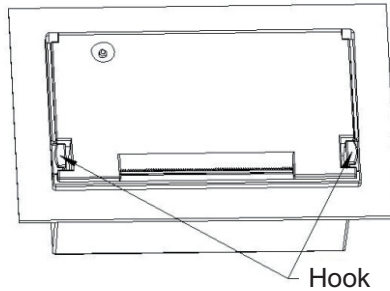

Fig. 2-2
(1) As shown in Figure 2-2, hold the two hooks indicated by arrows in the figure and pull them outward to open the cover of the printer.